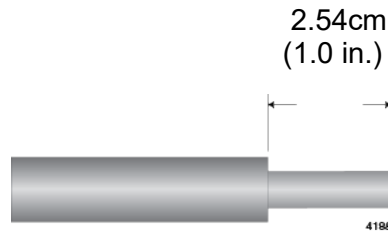

Figure 45. Stripping the Grounding Wire
1. Strip 2.54cm (1.0 in.) of insulation from the end of the solid grounding wire with a wire insulator stripper. Refer to Figure 45.